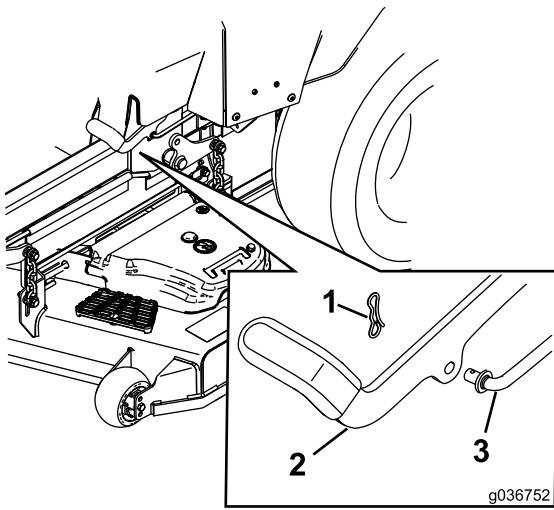

Figure 89
6. If an adjustment is necessary, disengage the parking brake. Remove the cotter pin from the brake linkage shaft (Figure 89).